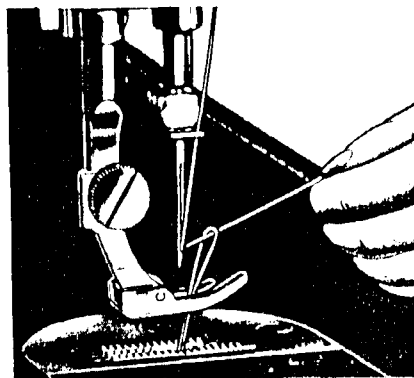

Fig. 21. Drawing up Bobbin Thread
- Pull on needle thread and bobbin thread will come up through hole in throat plate, as shown in Fig. 21.